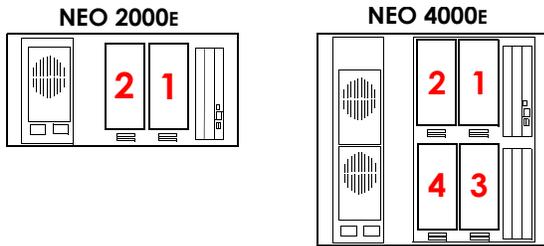

Figure 3. Drive Sequences by Library Type
**IMPORTANT:** New drives must be installed in sequence with the other drives (see Figure 3).